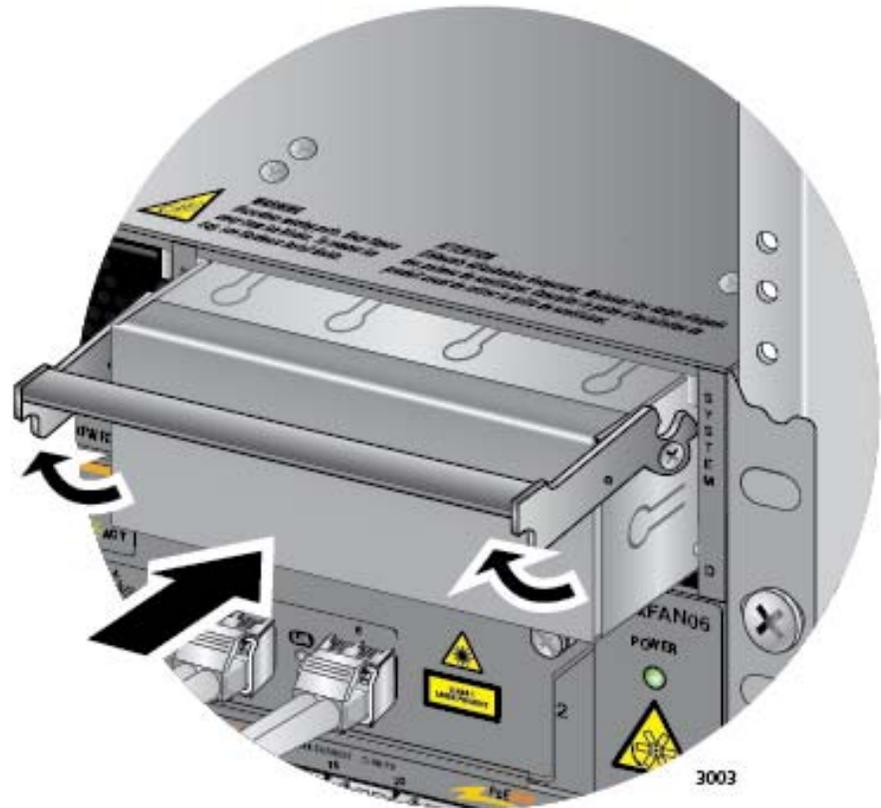

Figure 140. Installing a Blank Power Supply Slot Cover
5. Place the locking handle on the slot cover in the up position and slide the cover into the empty power supply slot. Refer to Figure 140 on page 209.